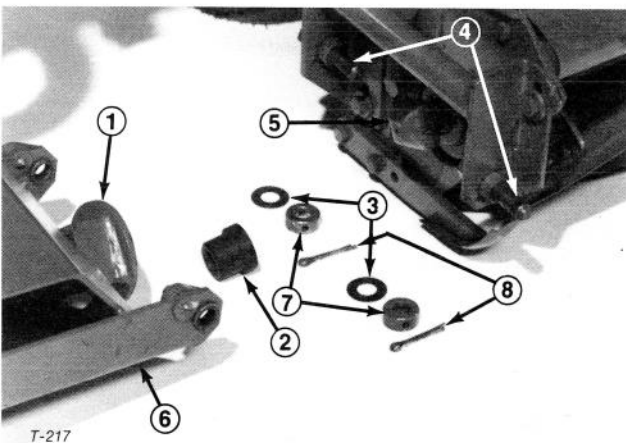

Figure 7
2. Check each end of reel drive shaft to be sure reel drive pads are installed, mount a washer onto each pivot stud (two per unit), align pivot studs with intermediate frame holes, drive ball with drive shaft and attach each cutting unit to the frame (Fig. 7).
3. Mount collars onto pivot studs and insert cotter pins to secure cutting units to frame (Fig. 7, 8).